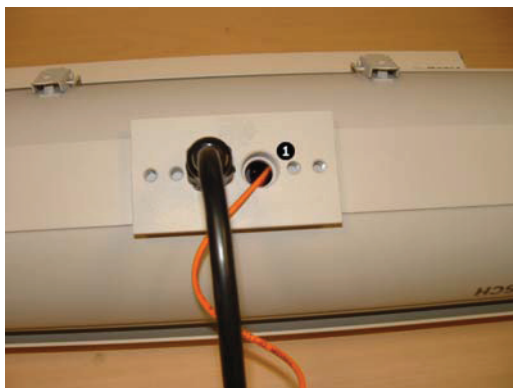

Figure 6.5 Seal the Hole in the Housing Foot
9. Seal the hole in the mounting foot of the camera housing with RTV or an equivalent seal. See *Figure 6.5*. If a fitting was used in the mounting foot, apply the seal around the network cable before tightening the fitting, to prevent slippage. A split rubber sleeve (not supplied) may be used for this purpose.